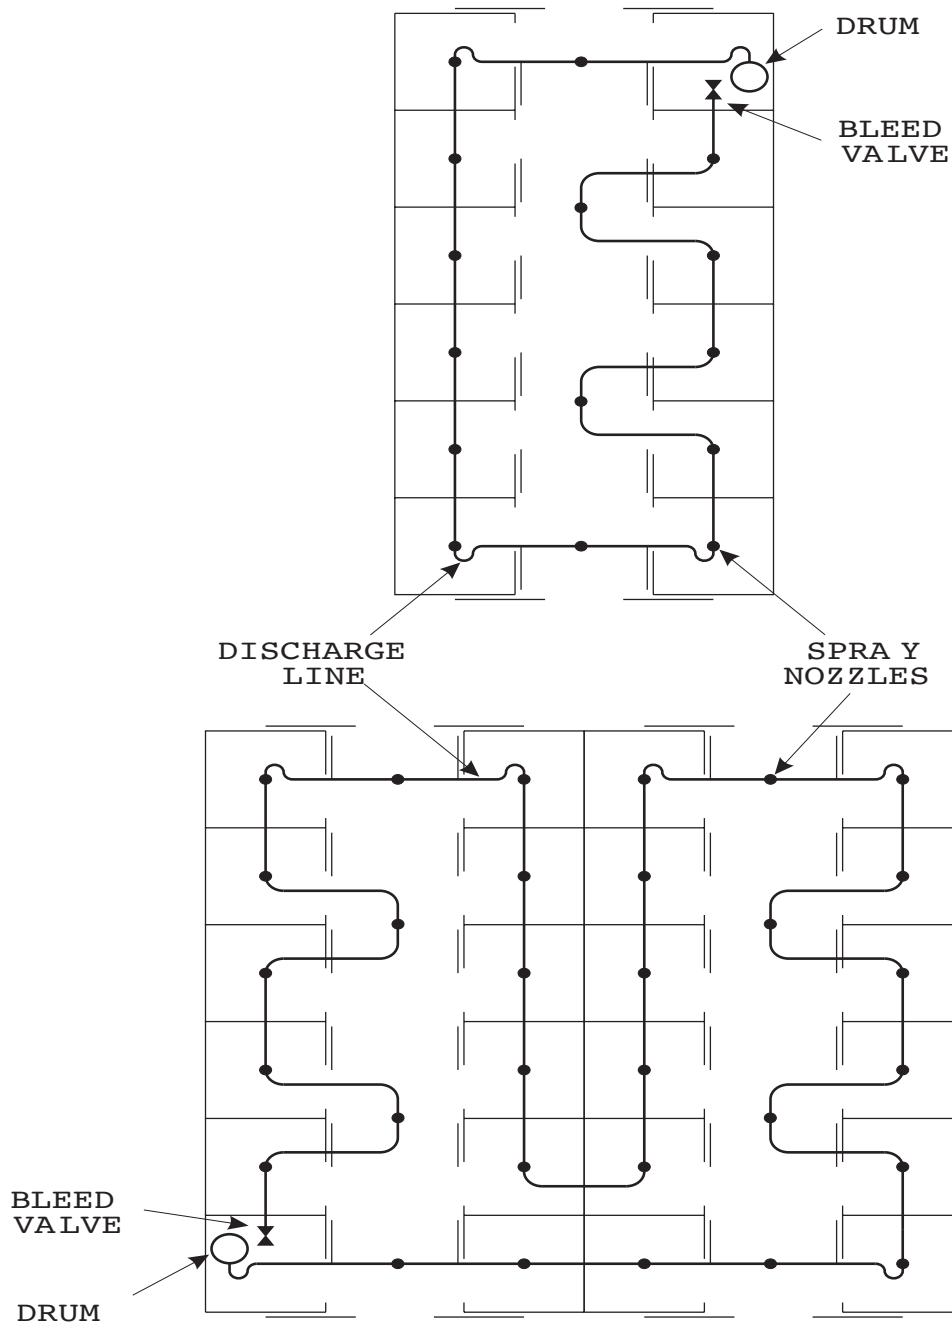

Figure 4 – Sample Barn Diagrams
13. Remove the spray nozzles from package. Using the barn diagrams as a guide (figure 4), run the $\frac{1}{4}$ inch nylon tubing on the ground around the stall area to be treated, beginning at the tank.